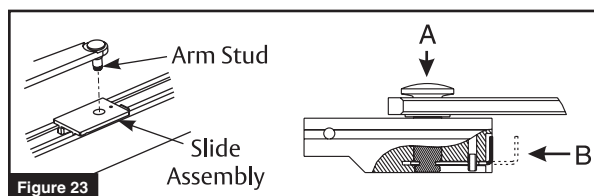

Figure 23
- Insert stud on arm into slider in track by pressing clip on backside of slider onto stud. (Figure 23)